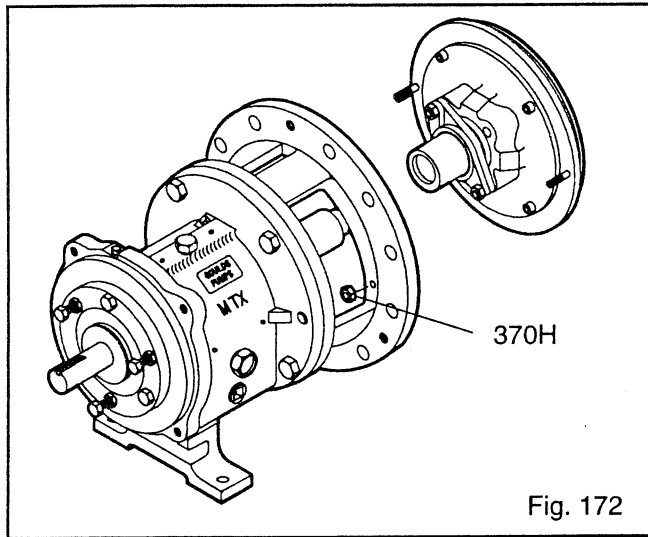

Fig. 172
8. Install dynamic seal assembly. Install nuts (370H) (Fig. 172).